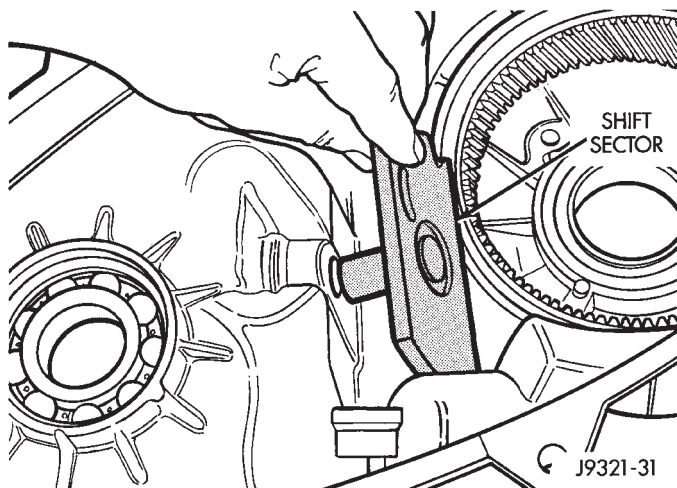

Fig. 29 Shift Sector Removal
- (8) Remove shift sector. Rotate and tilt sector as needed to remove it (Fig. 29).